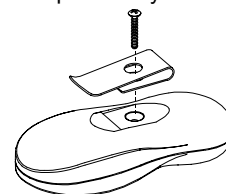

Figure 5. Belt Clip Installation
Each transmitter of this series is supplied with a belt clip that can be optionally attached to the unit (see Figure 5).
**Note:** If the user needs the belt clip (included), position the belt clip as shown in Figure 5 and insert the screw through the hole in the clip.